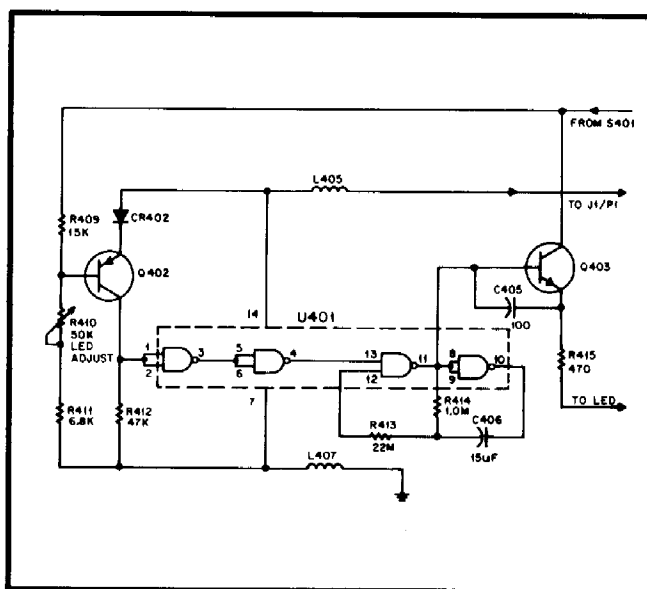

FIGURE 10
This circuit, shown in Figure 10, uses a quad NAND gate module (U401) to generate the logic sequence. The LED indicator is normally off when in the receive mode. When the PTT switch is engaged, and the battery voltage is above the limit set by R410, transistor Q402 is turned off and no current flows in R412. This keeps pins 1 and 2 of NAND gate 1 in U401 low (0). Pin 3 is forced high (1), which means that pin 4 goes low (0). Similarly, pin 13 is low and pin 11 is forced high continuously. Q403 is then biased on and current flows to the LED.